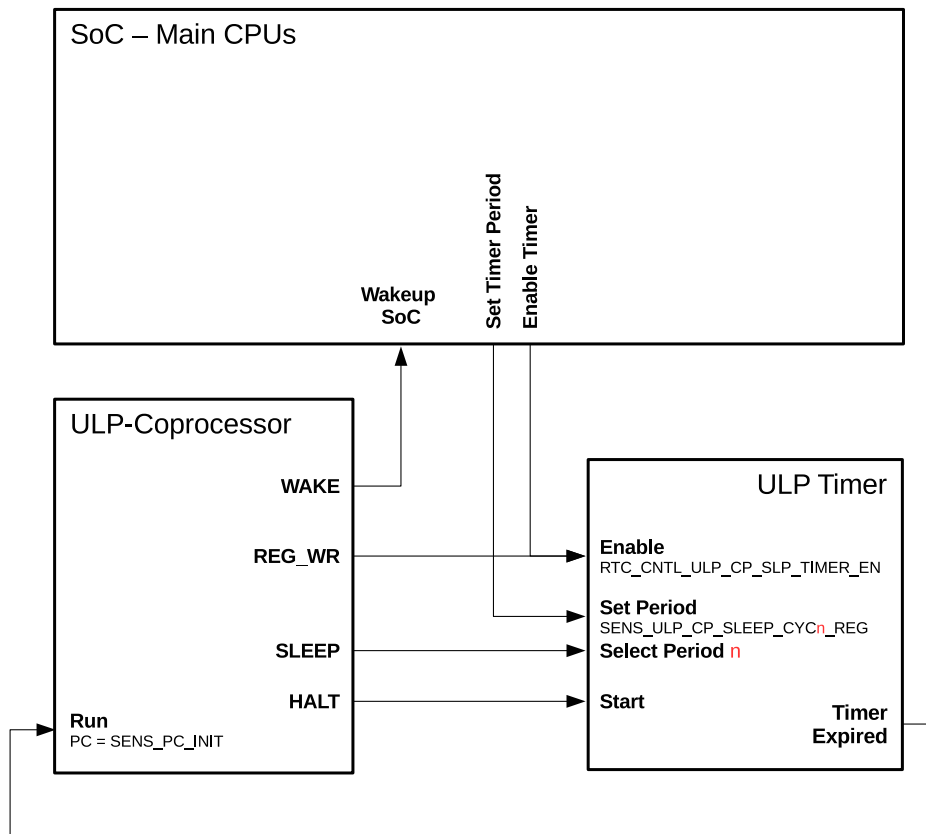

Figure 30-19. Control of ULP Program Execution
The ULP coprocessor puts itself into sleep mode by executing the **HALT** instruction. This also triggers the ULP timer to start counting **RTC_SLOW_CLK** ticks which, by default, originate from an internal 150 kHz RC oscillator. Once the timer expires, the ULP coprocessor is powered up and runs a program with the program counter (PC) which is stored in register **SENS_PC_INIT**. The relationship between the described signals and registers is shown in Figure 30-19.